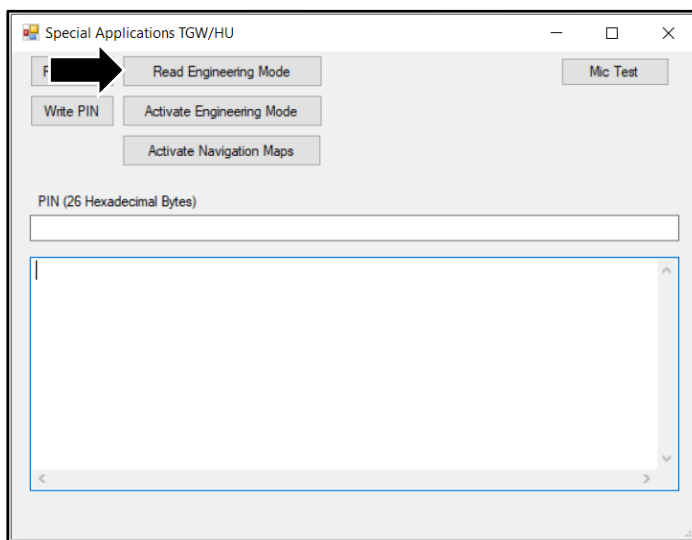

Figure 5
11. Select 'Read Engineering Mode' (refer to Figure 5).